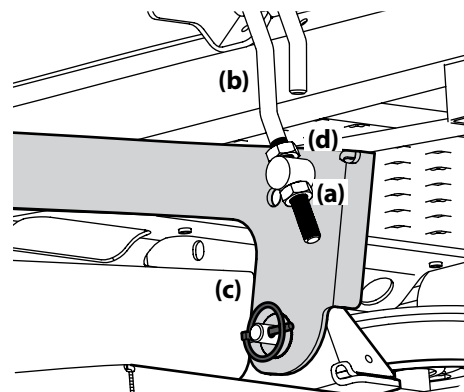

Figure 4-5
3. Loosen the lower jam nut (a) on the adjustable lift link (b) attached to the deck lift arm (c) to lower the deck and tighten the upper jam nut (d) to secure the deck in place, loosen the upper jam nut (d) then tighten the lower jam nut (a) to raise the deck and secure the deck in place. See Figure 4-5.